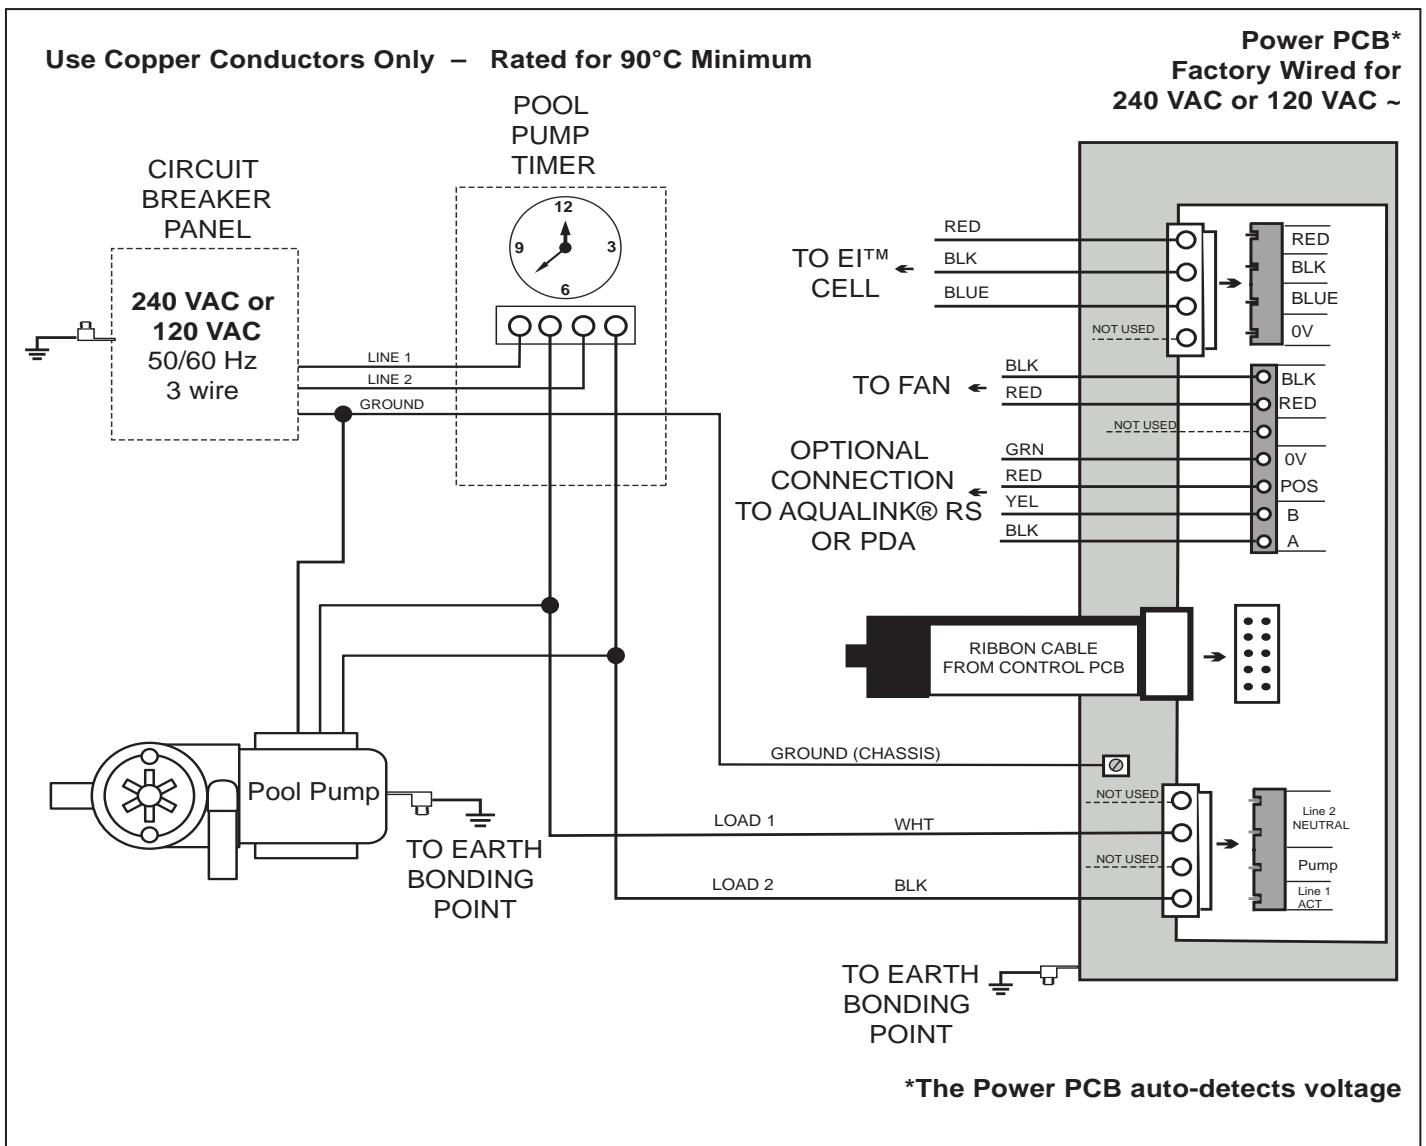

Figure 17. 240 VAC or 120 VAC Wiring Diagram
1. Wire power pack to pool pump power source using 3.3 mm² (12 AWG) insulated wire and conduit. Wire the power pack to the LOAD side of a pump or the LOAD side of the pool pump timer relay so that the chlorinator can only come on when the pool pump comes on (see Figure 17).